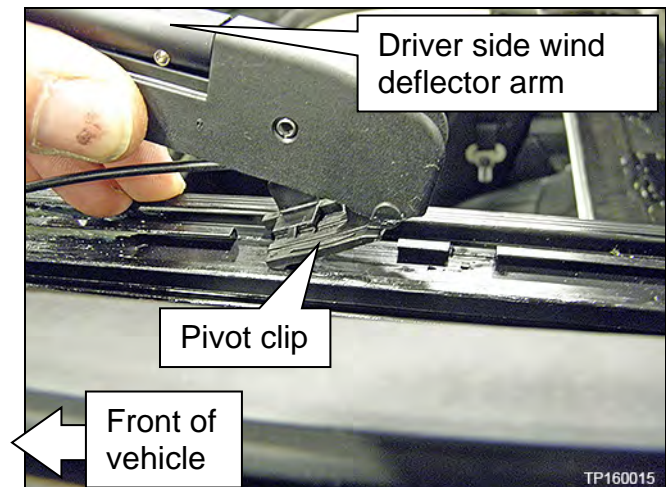

Figure 20
- c. Detach the pivot clip and wind deflector arm from the frame (Figure 20).